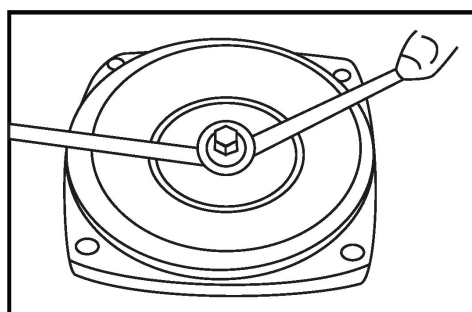

FIGURE 5a
- a. Using two standard screwdrivers, pry the ceramic seal and rubber gasket from the recess of the mounting ring (Fig. 5a).